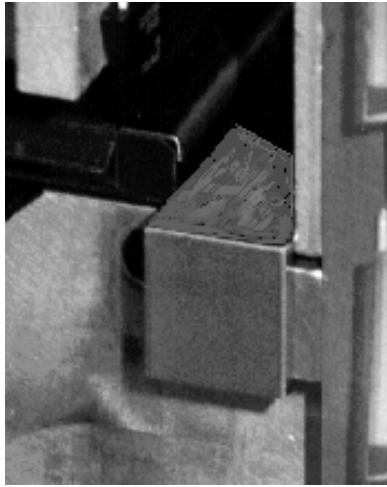

Figure 6-5 Tray to Scanhead Relationship
4. Set the long end of the sensor/tray alignment tool flat on the Scanner, with the short end of the tool pointed down. Push the tray back to the tool, to position the tray at the correct distance (0.598 inch) from the bar code bracket on the Scanner Assembly (see Figure 6-5).